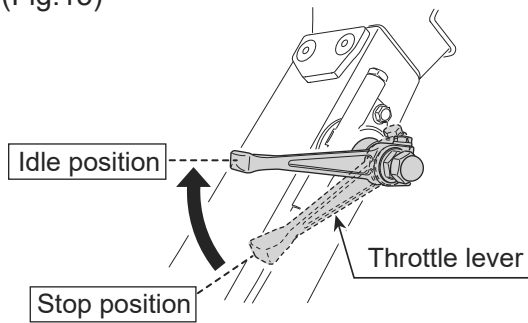

Fig.15
- 2 Open the throttle lever to the idling position. (Fig.15)